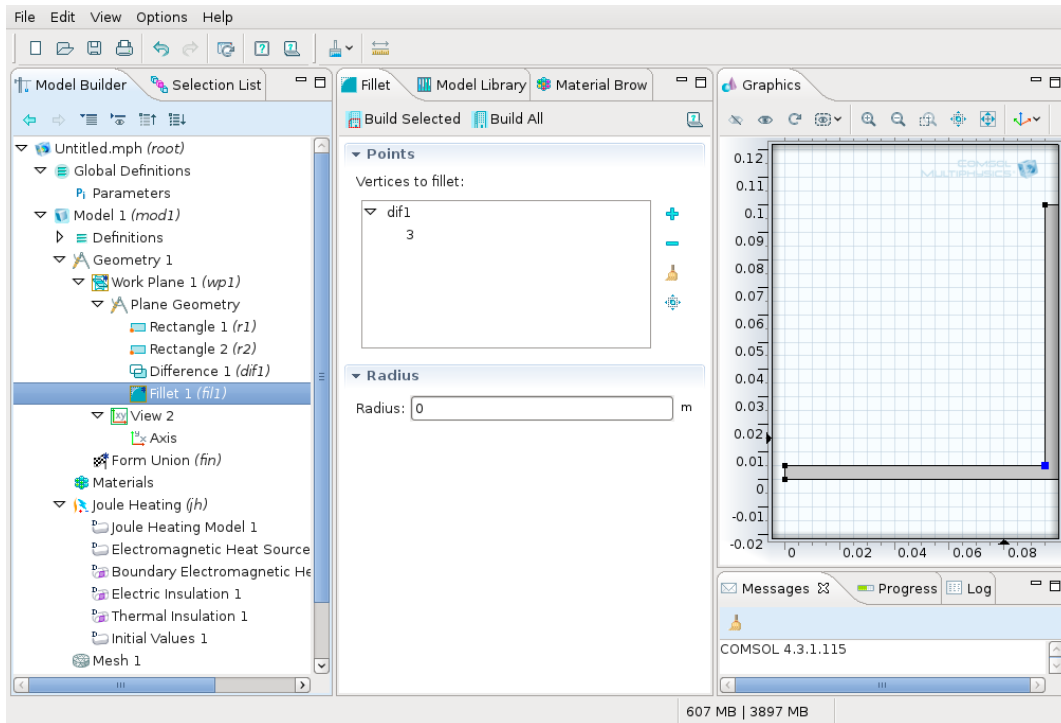

Figure 15: Selecting the point in the rendering window.
- in the rendering window, click on the appropriate point with the left mouse button turning the point red and then click the right mouse button anywhere in the rendering window turning the selected point blue (Fig. 15);